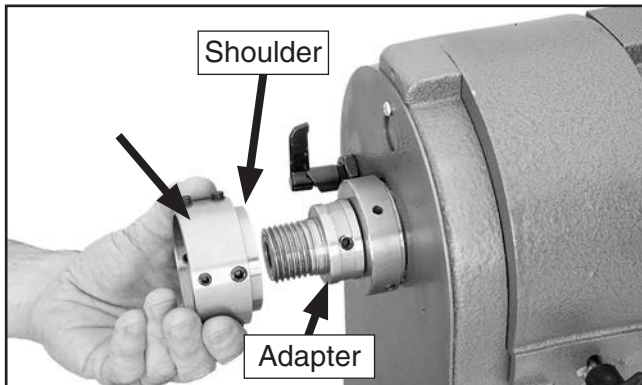

Figure 69. Threading on mounting hub.
28. Slide the mounting hub onto the adapter (see **Figure 69**), making sure the shoulder of the hub faces the headstock, then tighten the inner set screws on the hub.